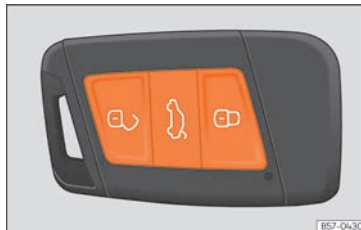

Fig. 53 Remote control key: keys.
- Lock: press the  >>> Fig. 53 button.